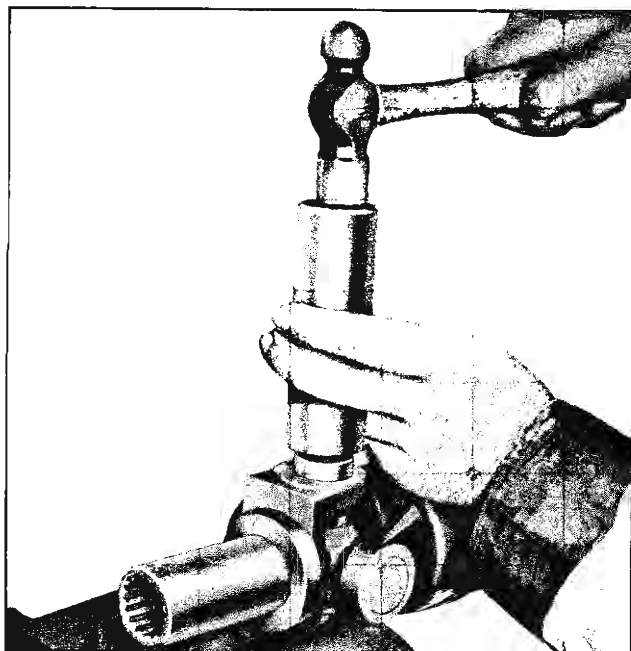

Fig. 4A-5 Removing Bearing From Splined Yoke Member
d. With yoke down as far as possible, place one or more flat washers ( $\frac{9}{16}$ " O.D.) inside lower bearing (Fig. 4A-6).